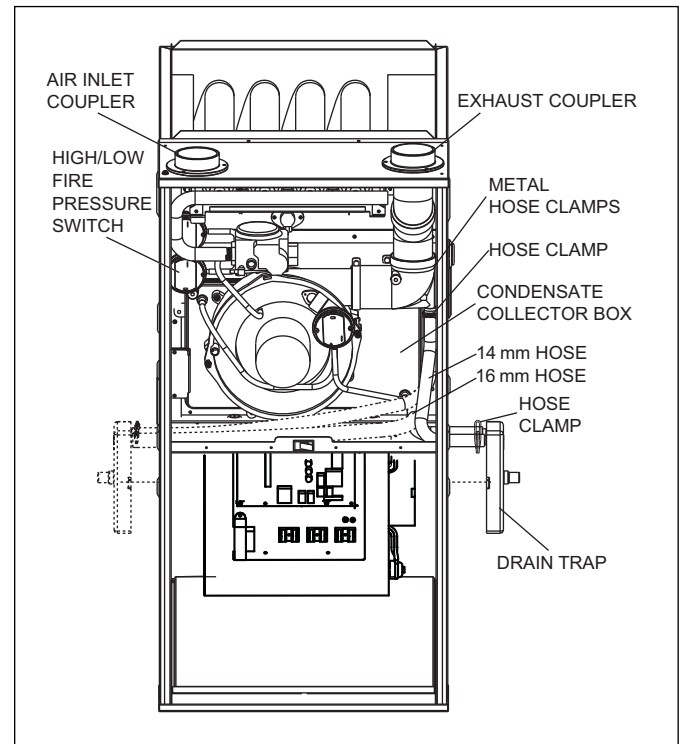

Figure 14 Upflow Installation, Top Venting
Top venting (see Fig. 14)
5. Connect $\Phi 16$ mm hose between condensate collector box and drain trap and connect $\Phi 14$ mm hose between inducer drain port and drain trap. (see Fig. 14).